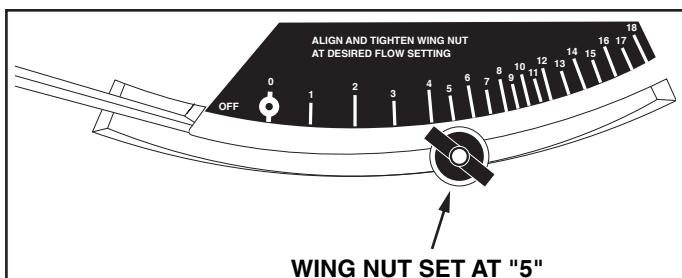

FIGURE 24
- Loosen the plastic wing nut and move it to the desired setting. Retighten the nut. See figure 24.